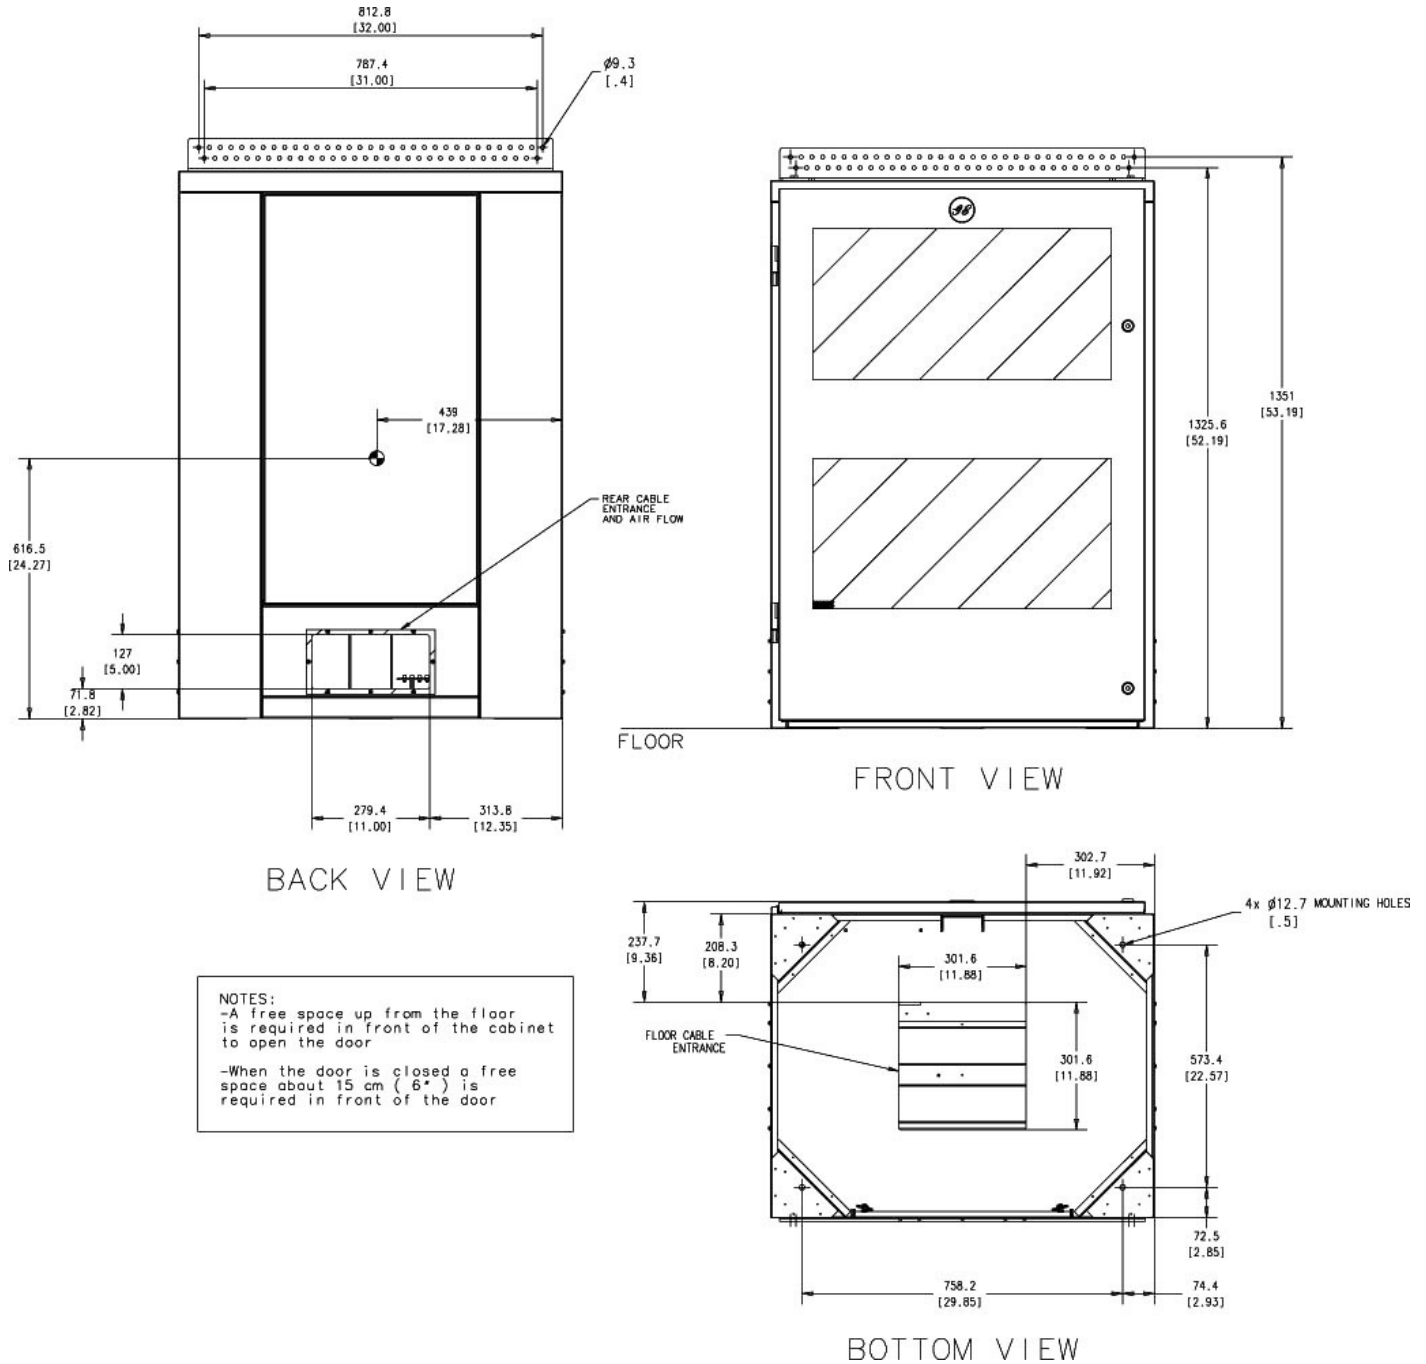
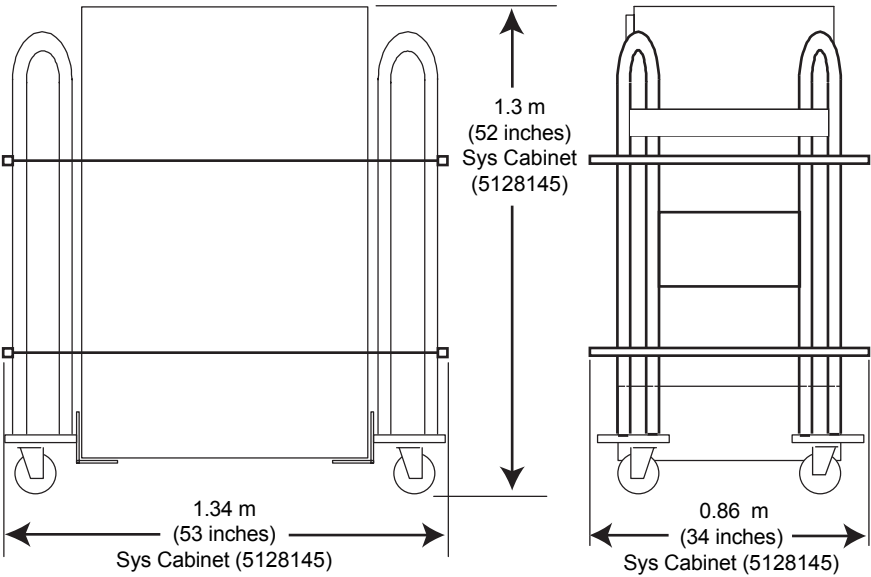

Figure 5-8 System Cabinet Dimensions (Front, Bottom, Back)
Figure 5-11 System Cabinet Shipping Dolly Dimensions
- System Cabinet (SKL) - Figure 5-8 through Figure 5-11.